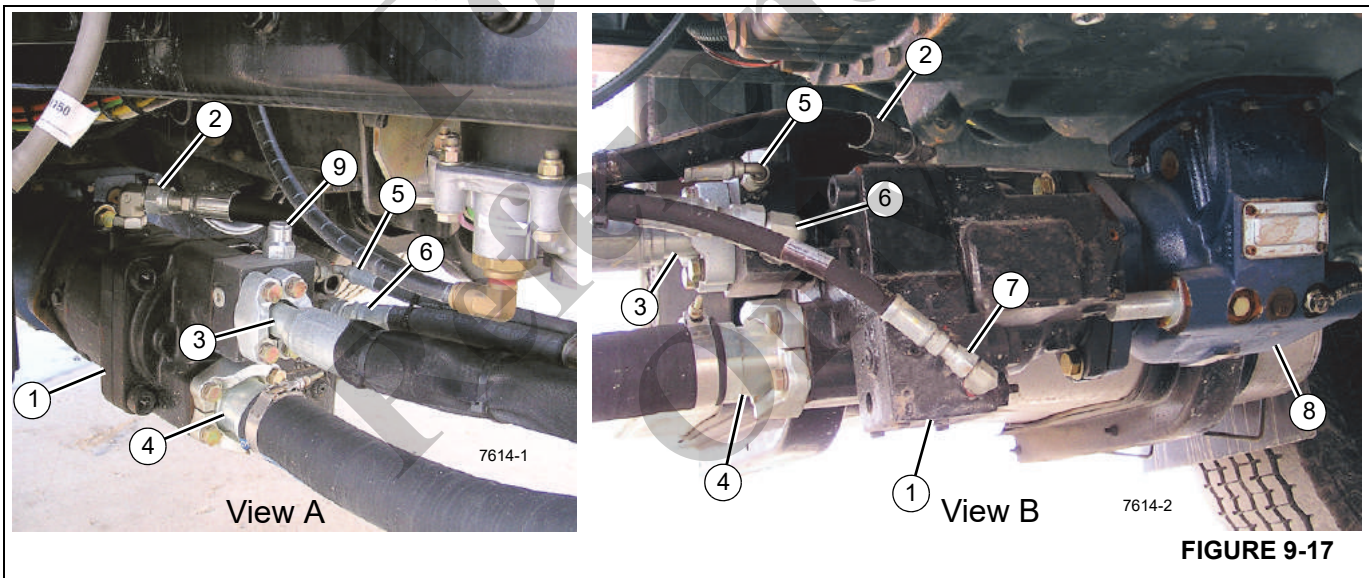

FIGURE 9-17
See Figure 9-17 for the following steps.
The hydraulic system pressure is supplied by a hydraulic pump (1, Figure 9-17) mounted on the truck power take-off (PTO) (8).
10. If using the configuration shown in Figure 9-17 be sure to position the case drain port (2) at the highest point above ground level.
14. Remove the dust covers from the hydraulic pump inlet and outlet ports and install the hydraulic fittings and lines as shown in Figure 9-17.
NOTE: Figure 9-17, View A, shows the left (driver's) side of the hydraulic pump installation and View B shows the right (passenger) side of the hydraulic pump installation.